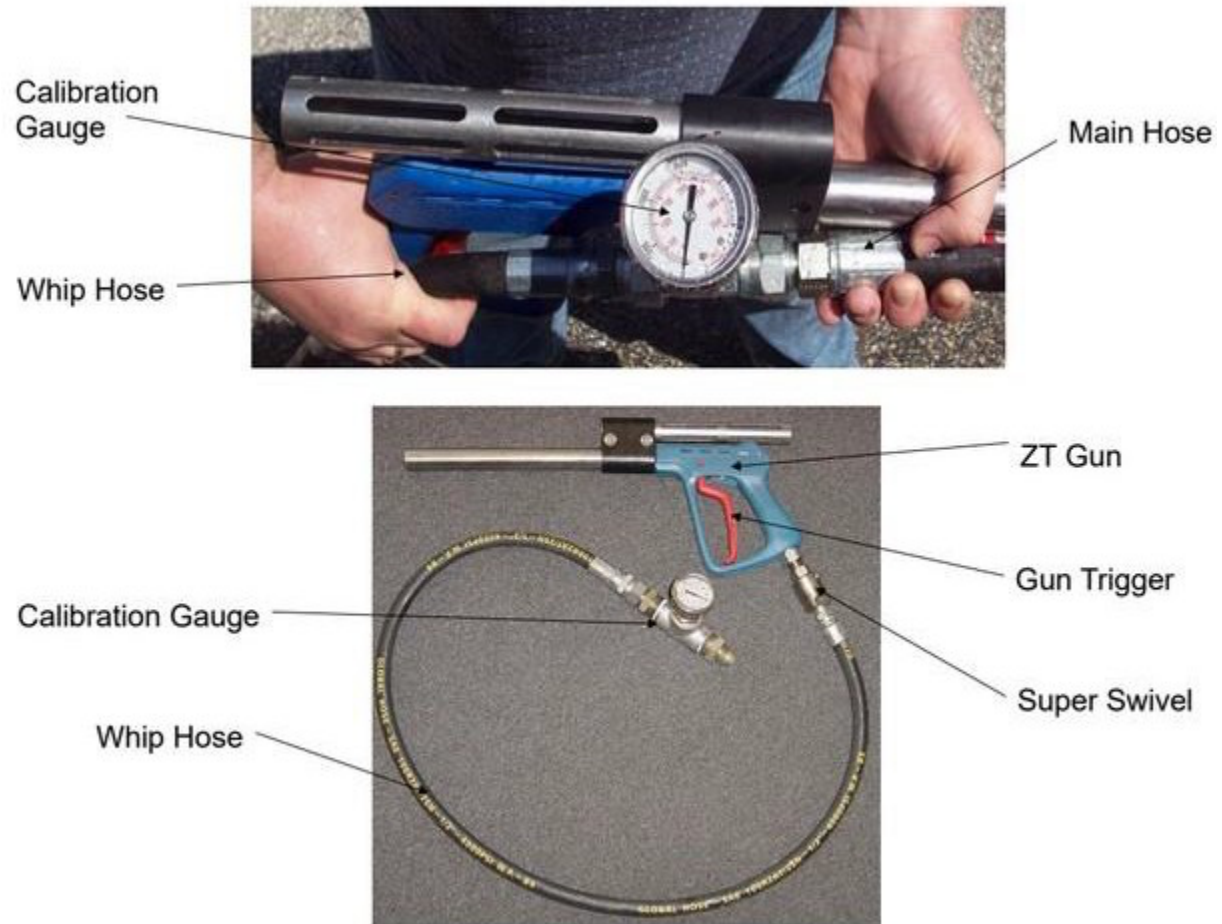

Figure 5.1 – Zero-thrust dump gun Pressure Calibration
3. Turn the E-Stop button and pull out to release (See **Figure 5.1**).
1. Engage the pressure pump by turning the start-up by-pass valve to the “CLOSED” position (See **Figure 5.1**).